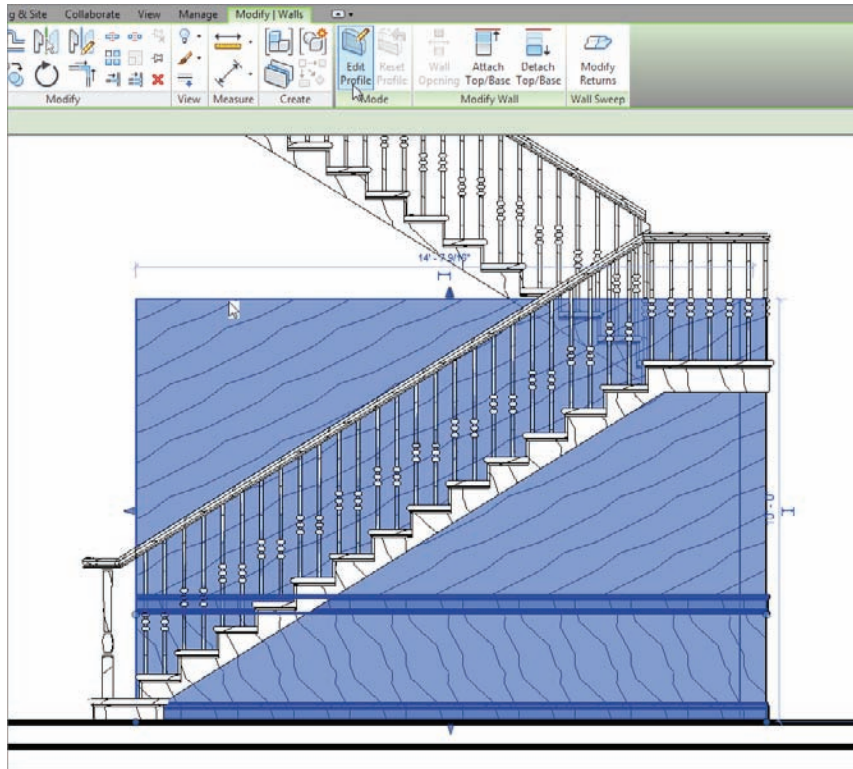

FIGURE 16.13 Selecting the wall to be modified, and clicking the Edit Profile button
4. Select the wall, as shown in Figure 16.13.
5. On the Mode tab, click Edit Profile (see Figure 16.13).